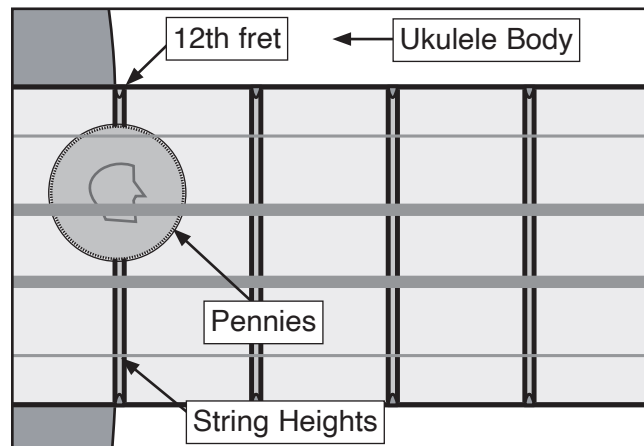

Figure 29. Correct 12th fret string heights.
2. Using a stack of three pennies, measure string heights at 12th fret (see **Figure 29**).